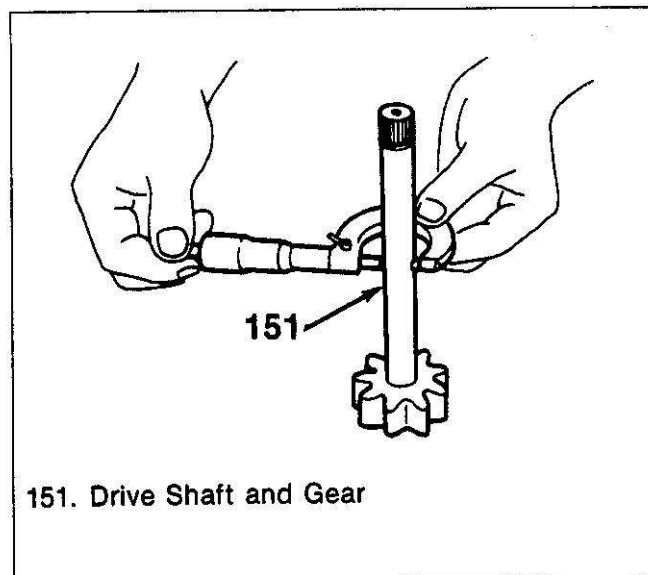

Figure 78. Check Oil Pump Drive and Driven Shaft Diameter
- Drive and driven shaft diameters as shown in figure 78. If the diameter is less than 15.9 mm (0.63 in), replace the shaft and gear set.